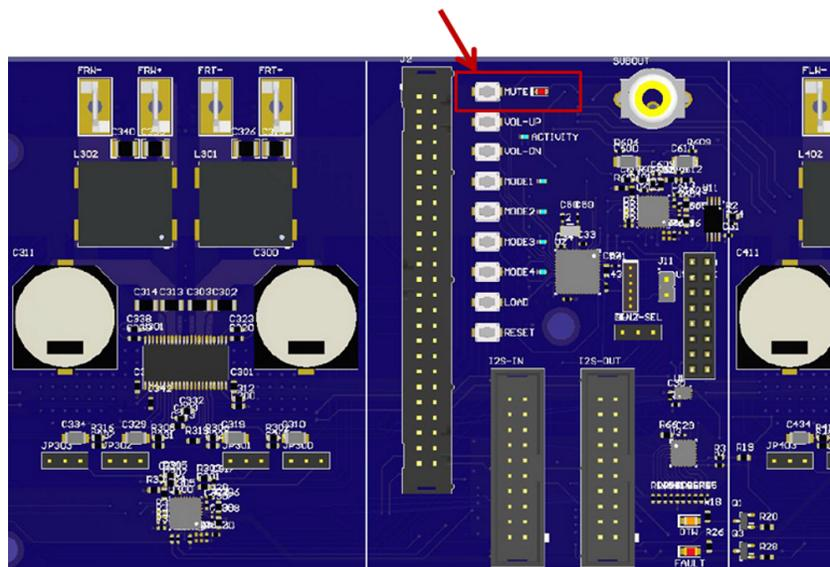

Figure 12. Mute Button Location
- a. Upon power up, the amplifiers default into mute mode. Press the mute button once to unmute the amplifiers (see Figure 12). The red indicator LED should shut off when the amplifiers are out of mute mode.